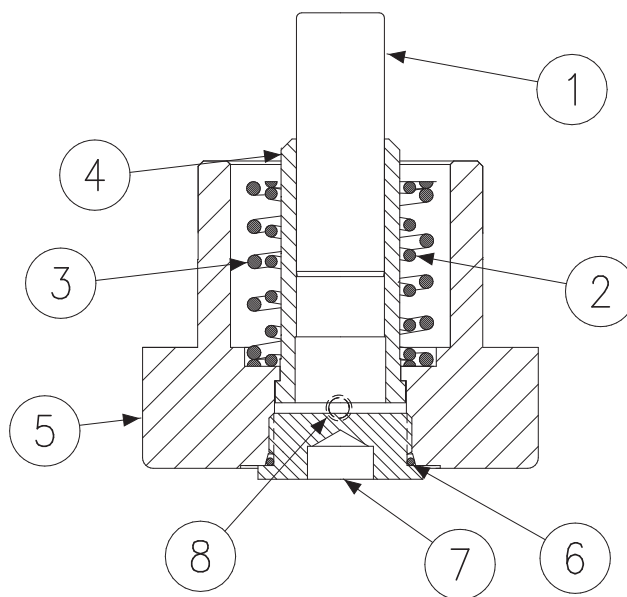

FIGURE 9
| 3 | Buck Up Cap (Fig. 9) | S22-15653 | S22-15653 | 1 | 1 |
PARTS LIST FOR FIGURE 9
1. **See Figure 9.** Set maximum volume stop to full stroke. Remove 4 screws holding cap to pump. Caution! Spring load could cause injury!
3. Remove and examine springs (2), (3) and piston (1). If sleeve (4) is worn, press it out and replace.
| 3 | Buck Up Cap (Fig. 9) | S22-15653 | S22-15653 | 1 | 1 | 1 | 1 |